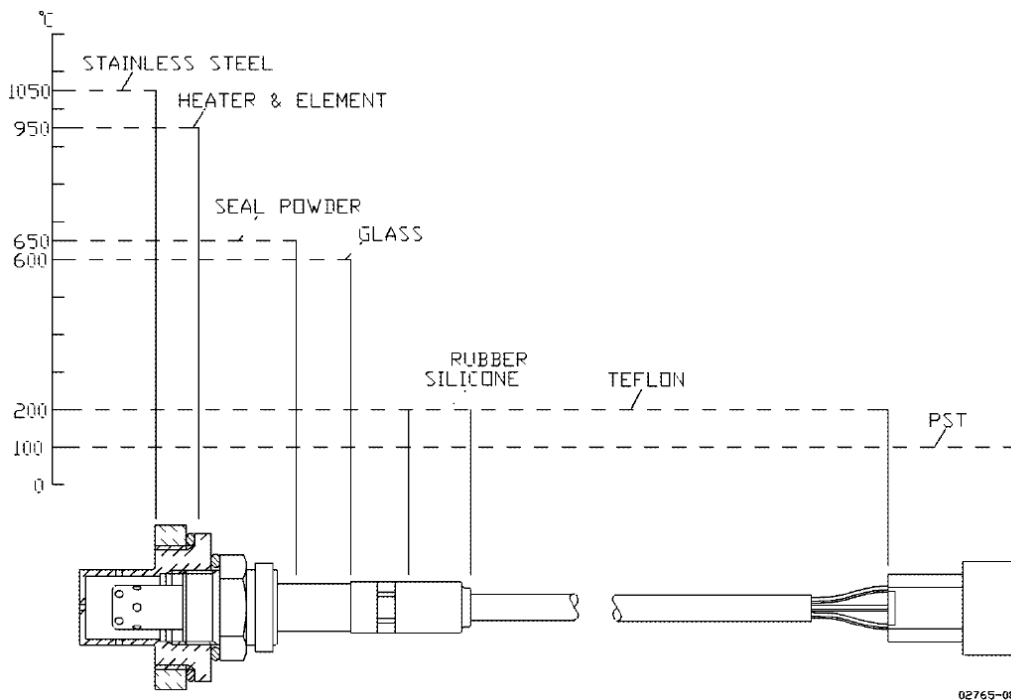

Figure 2-6. Thermal Characteristics of the UEGO Sensor
4. ALWAYS use a heat shield around the sensor to prevent the sensor housing from heating up by radiation (see Figure 2-6).